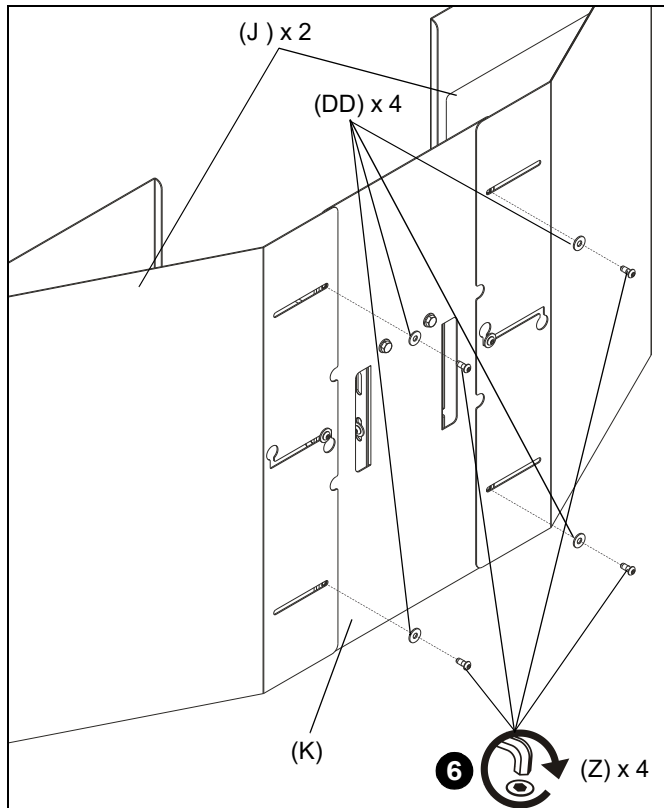

Figure 13
6. Use four 1/4-20 x 5/8" button head cap screws (Z) and four 1/4" washers (DD) to secure two side wind shields (J) to center wind shield (K). (See Figure 13)
7. Tighten all six screws (Z).